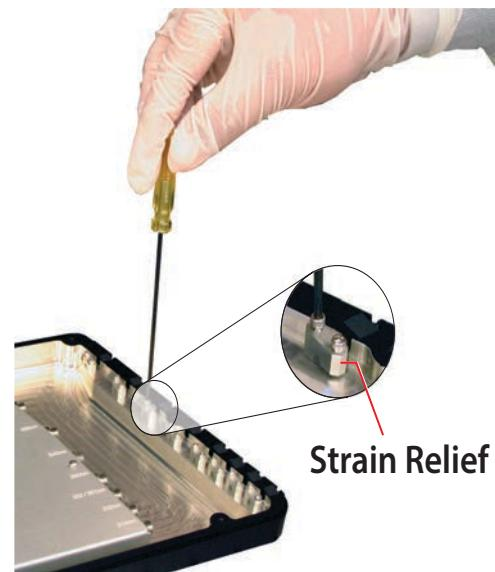

Figure 13-6. Remove Strain Relief Screws
3. Using the 5/64" hex wrench, remove the two strain relief screws (shown in Figure 13-6) for the appropriate wavelength channel and set the strain relief aside. The wavelength channel shown in this procedure uses the OBIS FP/UFC 488 nm laser as an example.